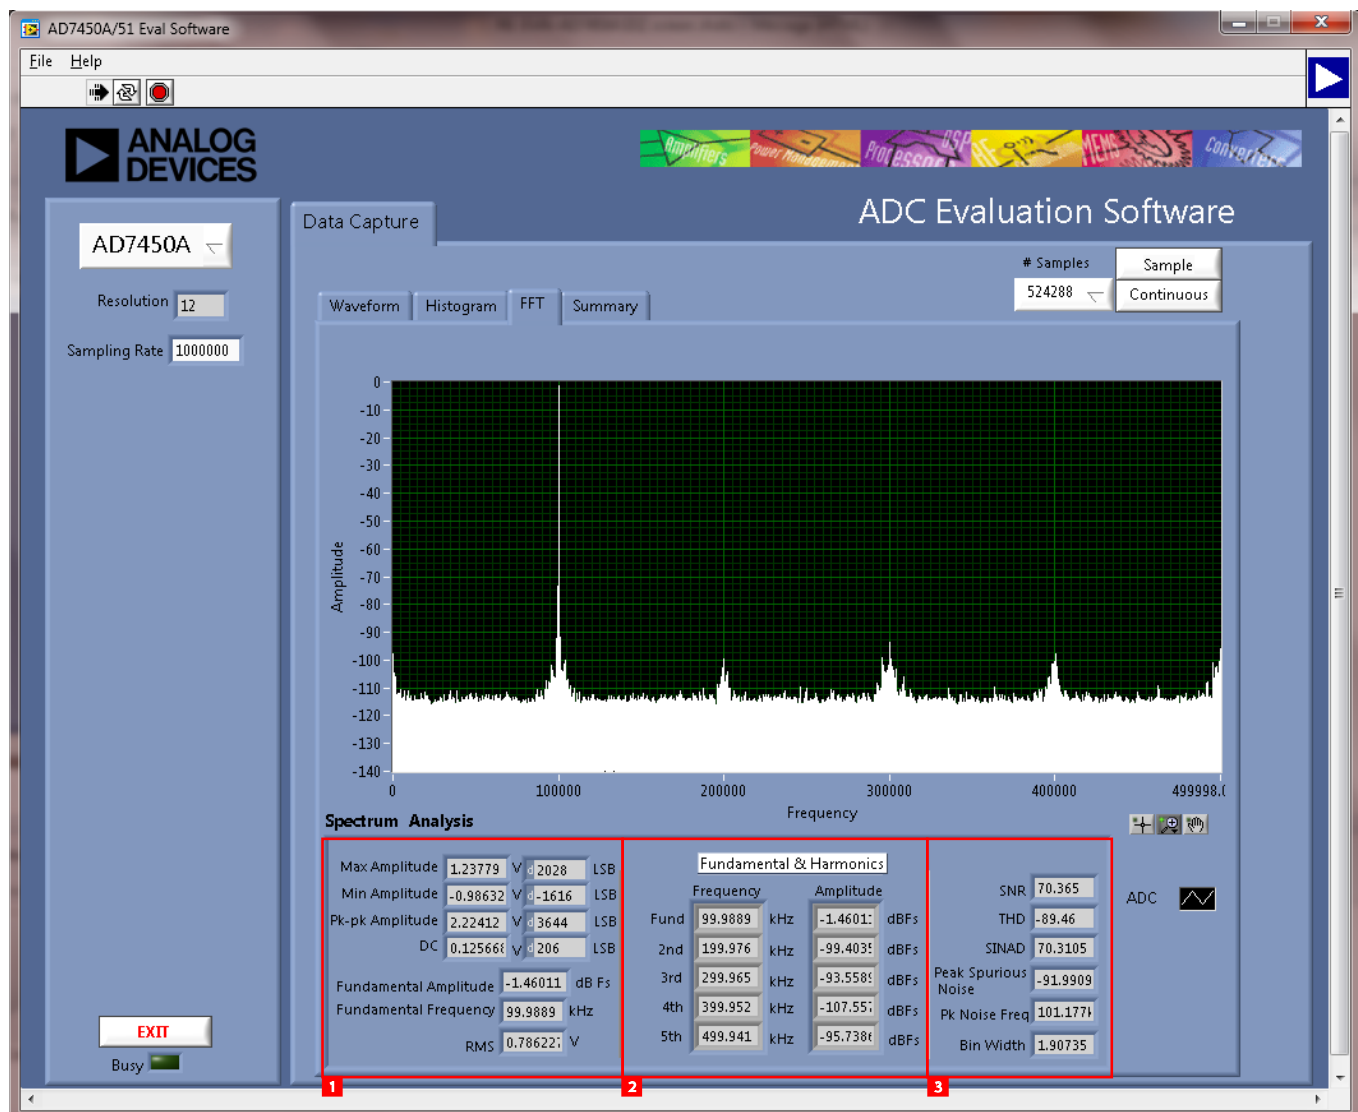

Figure 20. FFT Tab
Figure 20 shows the FFT tab. This feature tests the traditional ac characteristics of the converter and displays a fast Fourier transform (FFT) of the results.
- The area labeled 1 in Figure 20 shows the input signal information.
- The area labeled 2 in Figure 20 displays the fundamental frequency and amplitude in addition to the second to fifth harmonics.
- The area labeled 3 in Figure 20 displays the performance data, including the SNR, THD, and SINAD.